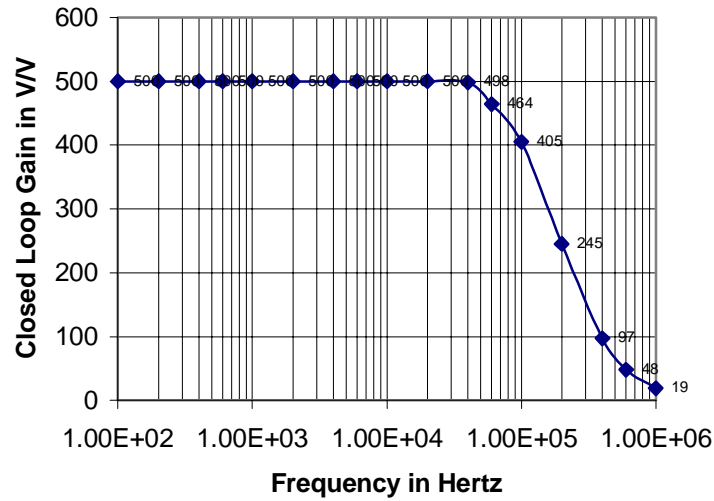

Figure 3.1d: Characterization of the Closed-Loop Gain of the Differential Input Amplifier
- The ideal “500V/V gain” of the differential input amplifier decreases with frequency. For more accurate measurements, the closed-loop gain of the differential input amplifier was characterized as shown Figure 3.1d. From this characterization, the amplification factor of v_e over frequency can be determined.